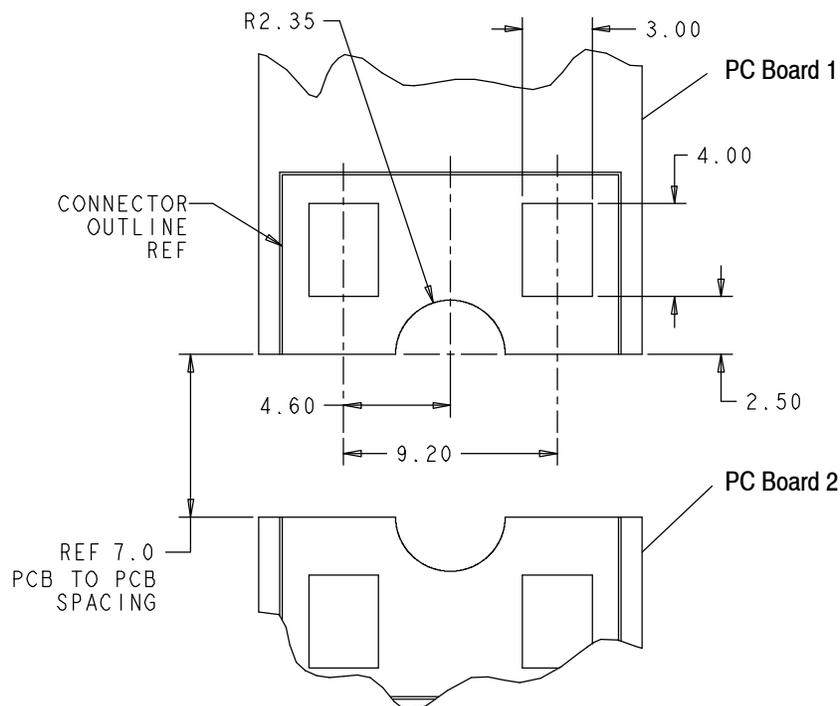

Figure 2
3.4. PC Board Material and Thickness (See Figure 2)
When placed on the pc board, features in the housing should align with the semi-circular cutouts on the pc boards. This will ensure the contacts are aligned with the pc board solder pads, provided the pc board layout and pc board spacing is per Figure 2.